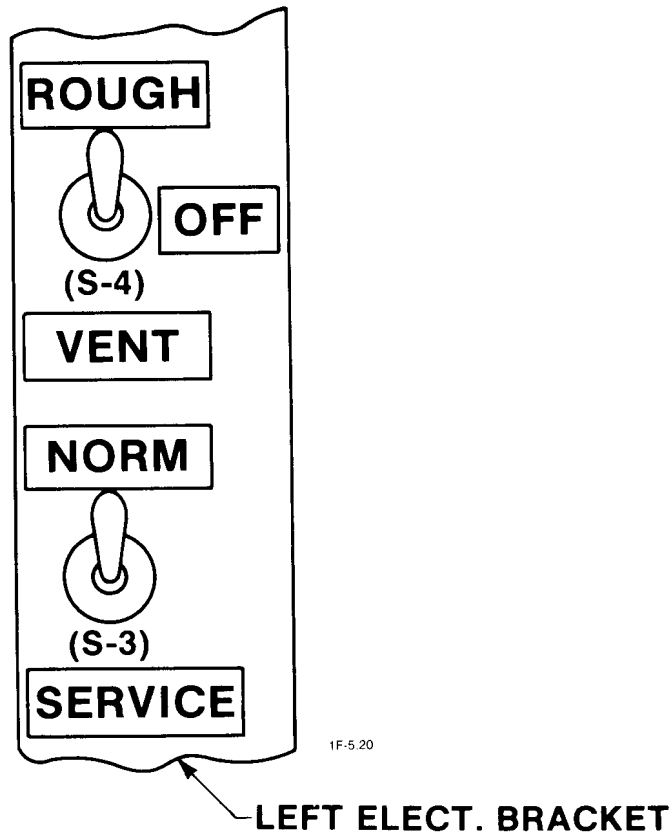

Figure C-1 - Service Switches Mounted on the Left Electrical Bracket
- e. Push the lower service switch (S-3) down to the SERVICE position (see Figure C-1).
- f. Hold the upper service switch (S-4) down in the VENT position for 5 seconds; then release this switch (see Figure C-1).
- b. Release the upper service switch (S-4) (see Figure C-1).
- c. Return the lower service switch to the NORMAL position (see Figure C-1).